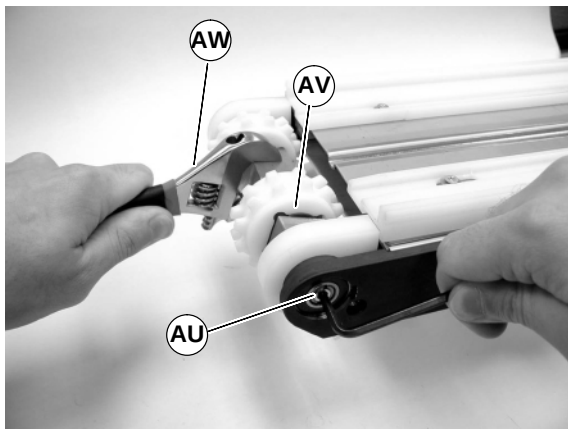

Figure 31
3. With 4mm hex-key wrench, loosen pulley taper screw (AU of Figure 31). Steady pulley (AV) with adjustable wrench (AW). Repeat procedure for opposite side of pulley.